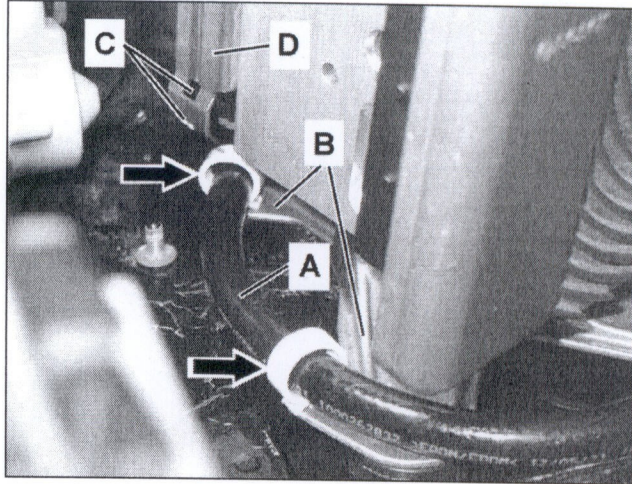

Figure 25
25. Secure new SBC suction hose (A, Figure 25) to SBC hydraulic unit mounting bracket (B) using **new** ("omega" type) mounting clips (arrows).
26. Insert a cable tie through slots (C, Figure 25) in bracket (D), **do not** close cable tie